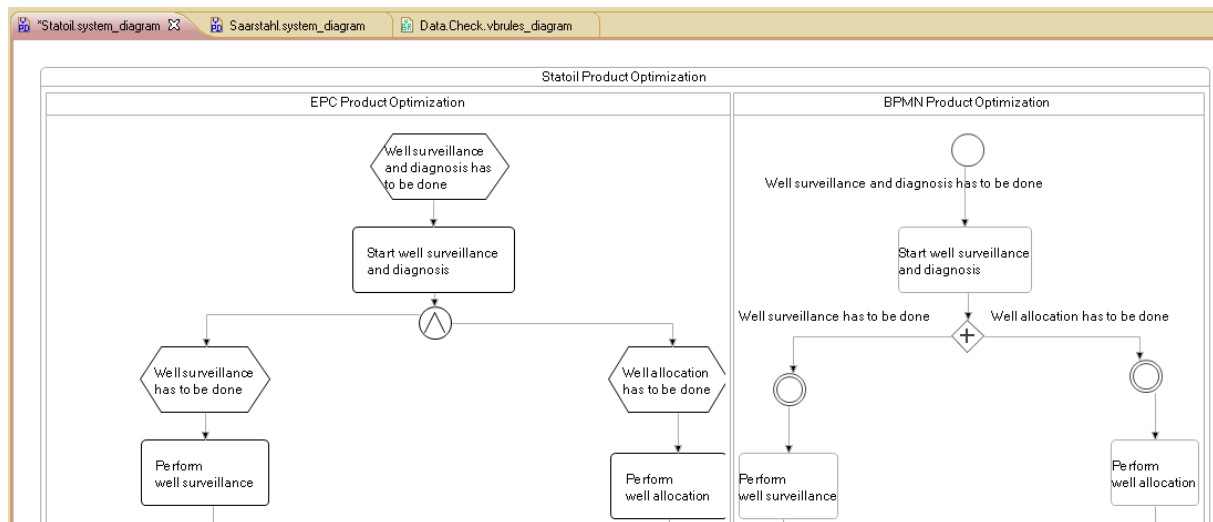

Figure 5. Statoil use case modelled
**Step 5.** After modelling the use case for Statoil from the deliverable 1.1 you may get the model to look like in the Figure 5. The next steps in this guide are dealing with this model exclusively.